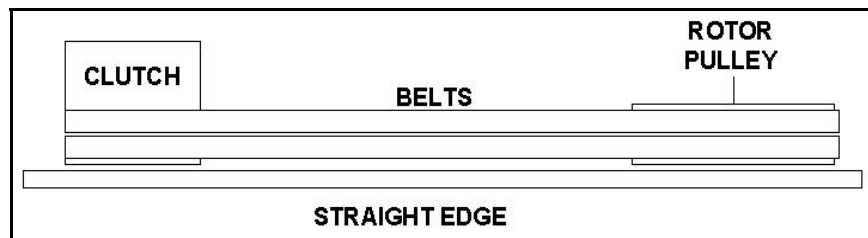

Figure 2
- Check alignment of the clutch (item #20, pg 30) with the drive pulley (item #18, pg 30) by placing a straightedge across both faces as shown in figure 2. If adjustment is necessary, correct alignment by moving rotor pulley in or out on the rotor shaft. **Do not make adjustment by moving the clutch on the engine shaft.**